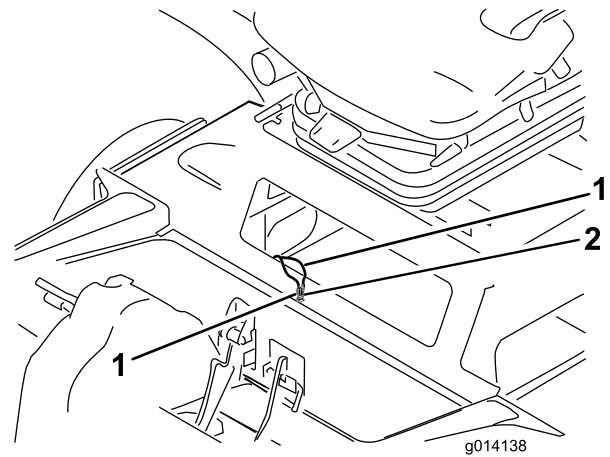

Figure 63
3. Locate the 2 capped counterbalance jumper wires inside the compartment (Figure 63)